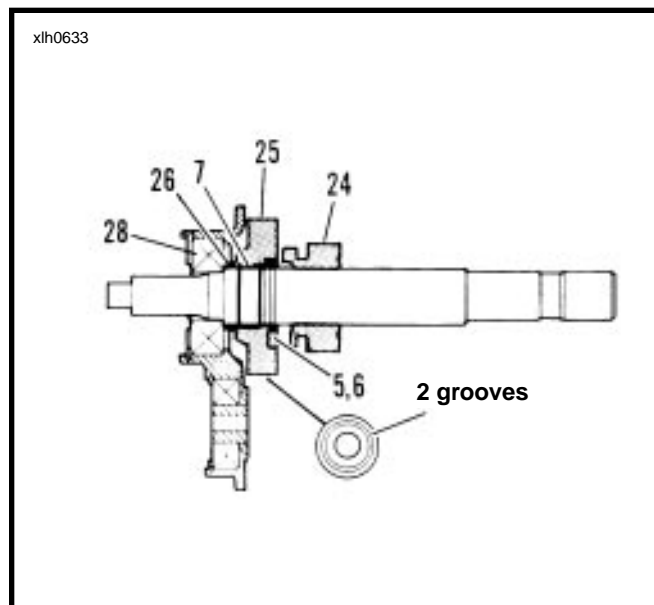
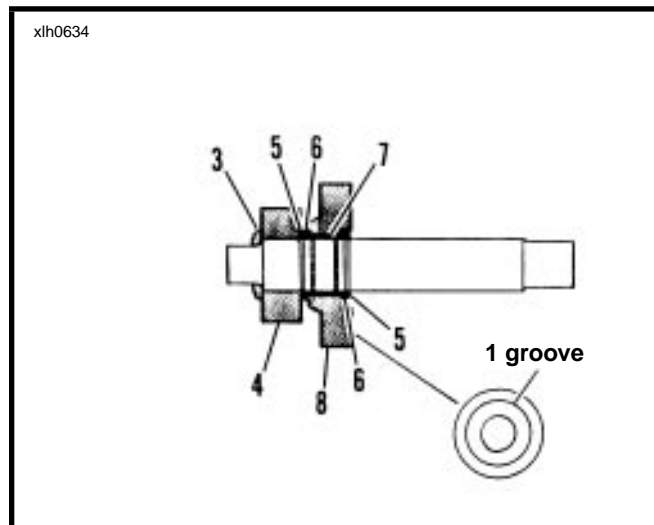
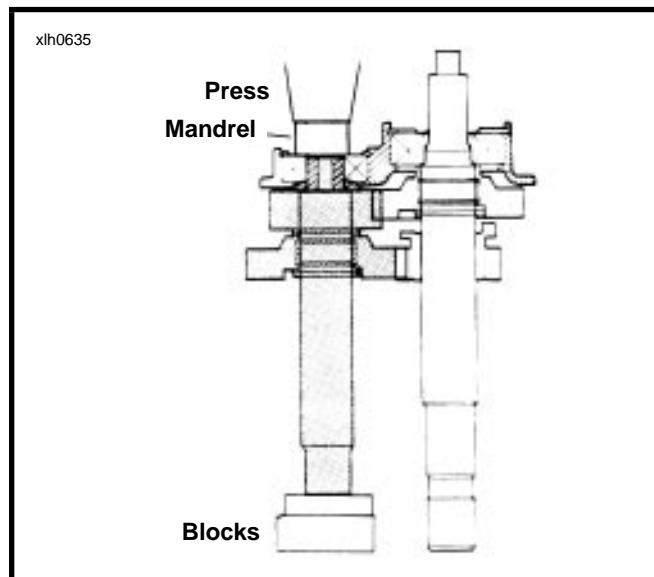

Figure 6-29.
Figure 6-30.
Figure 6-31.
2. See Figure 6-29. Place spacer (26) over mainshaft and position next to bearing (28). Position split bearing (7) into machined seat next to spacer (26). Locate mainshaft 4th gear (25), which can be identified by the two radial grooves at one side. Slide gear (25) onto shaft with radial grooves facing door. Position gear over bearing next to spacer (26).
3. Install thrust washer (6) and retaining ring (5) next to gear (25). It will be necessary to push the retaining ring into final position with a screwdriver.
4. Slide mainshaft 1st gear (24) onto mainshaft with the locking dogs facing gear (25).
5. See Figure 6-30. Install retaining ring (5). Position retaining ring in the second ring groove from the end with internal threads. Install thrust washer (6) next to retaining ring. Install split bearing (7) in seat next to washer (6).
6. Locate countershaft first gear (8). Gear (8) has a ring groove at one side of the gear. Install gear (8) over split bearing (7).
7. Install thrust washer (6) and retaining ring (5) next to gear (8).
8. Locate countershaft 4th gear (4). This gear is splined and has a single radial groove at one side. Position gear next to retaining ring (5). Place beveled washer (3) over end of shaft with beveled side away from gear (4).
9. See Figure 6-31. Stand countershaft assembly on press with small end (end with threaded hole) upward. Place access cover and mainshaft assembly on top of countershaft with bearing (1) in access cover over end of countershaft. Place a socket or section of pipe on inner race of bearing (1). Hold assembly straight, making sure gear teeth on countershaft are engaged with gear teeth on mainshaft, and press bearing onto shaft until beveled spacer bottoms against bearing.